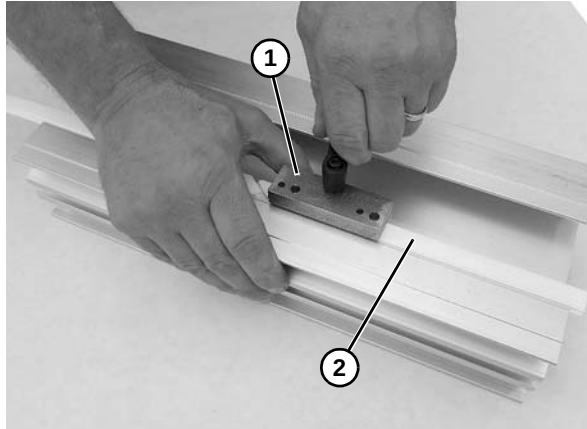

Figure 65
1. Attach wear strip replacement tool (**Figure 65, item 1**) over wear strip (**Figure 65, item 2**) and frame near the beginning of each wear strip section. Tightly secure in place.